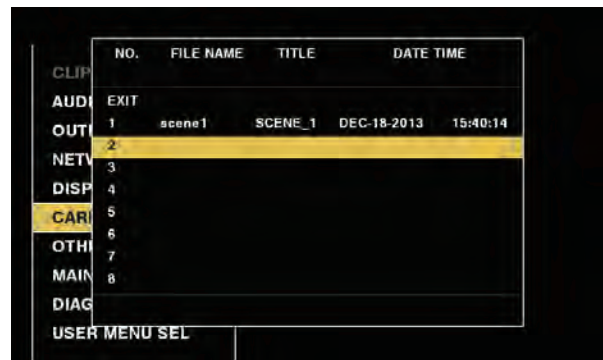

Fig. 2
- 2 Select a file number (1 to 8) and press the control stick (or <SEL/PUSH SET> dial button). (Fig. 2)
The file is written with the entered title on the SD memory card, and the screen of Fig. 2 returns.